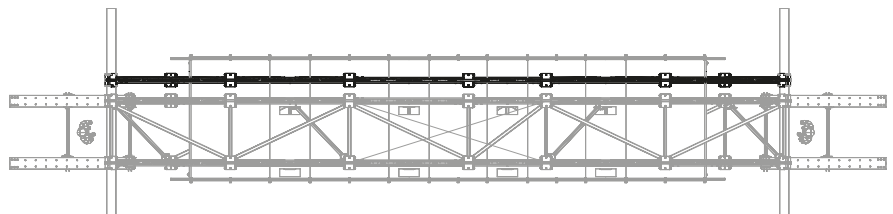

Fig. C6.02
3. Place the support nodes of the truss girder frame on the Support Calottes ATG (8). (Fig. C6.02)